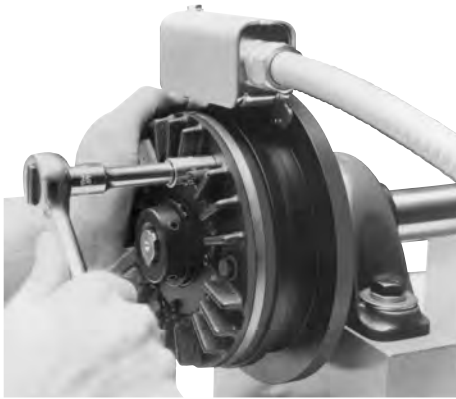

Figure 9
9. Attach the new armature segments to the cast iron carrier with hex head capscrews, lockwashers and washers. (See Figure 9) Apply one drop of Loctite®, (grade AA or equivalent) to each screw. Clean all hardware to remove old Loctite, and dirt. Tighten to the appropriate torque for your size unit.